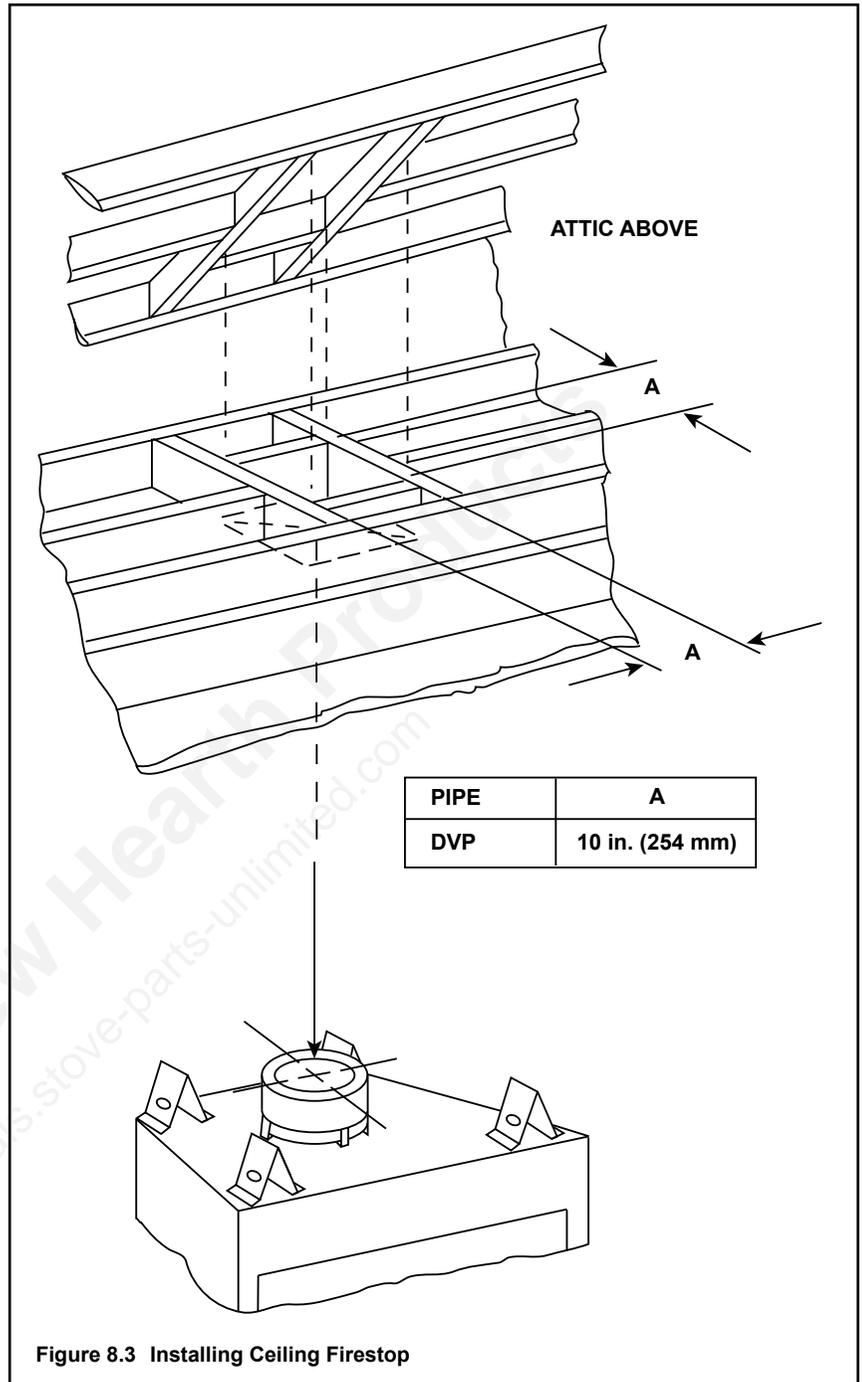

Figure 8.3 Installing Ceiling Firestop
- **DVP pipe only** - Frame an opening 10 in. by 10 in. (254 mm by 254 mm) whenever the vent penetrates a ceiling/floor (see Figure 8.3).